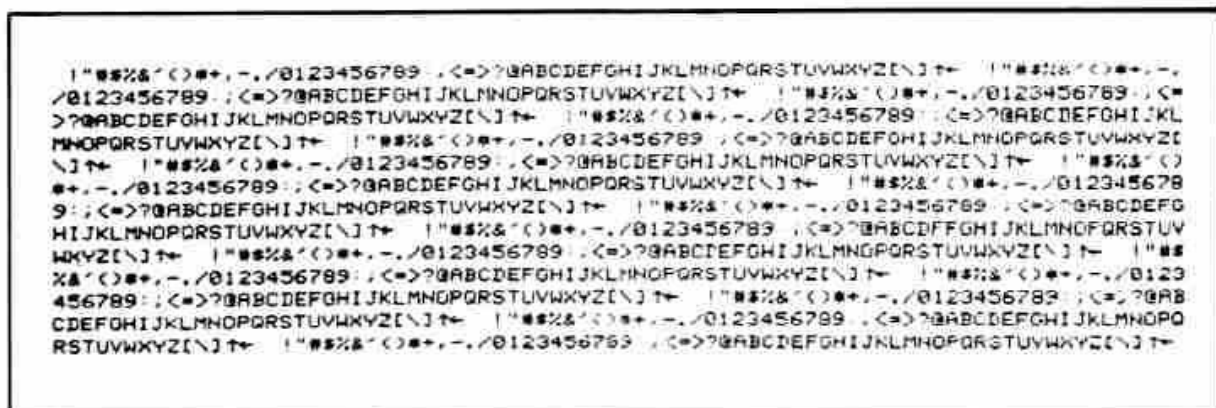

Figure 1-38. Print Head Test
2. Turn printer power back on while pressing the paper feed button (lower left front corner). The printer should rapidly print out a repeating sequence of all special symbols, numbers and letters available (no graphics). An example of the test is shown in Figure 1-38.